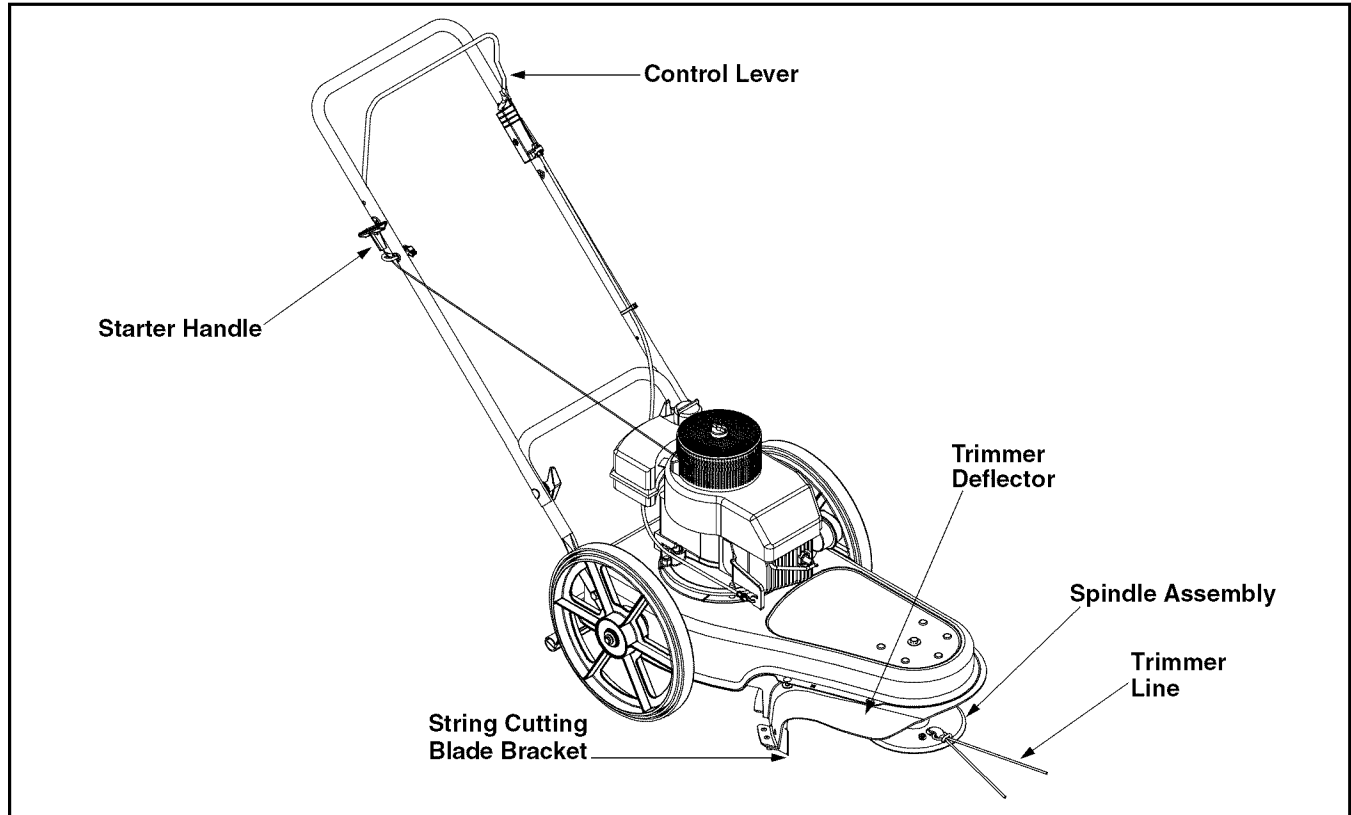

Figure 3
The control lever must be depressed to start the engine and rotation of trimmer spindle assembly. Releasing the control lever stops the engine and trimmer spindle assembly. See Figure 3.
The starter handle is attached to the right upper handle. Stand behind unit and pull the starter handle to start engine. See Figure 3.
The string cutting blade bracket is attached to the trimmer deflector. It is used to cut the trimmer line if it is too long. See Figure 3.
The trimmer deflector is connected to the trimmer base and it is used to prevent yard debris from being thrown. See Figure 3.
The spindle assembly rotates the trimmer line. See Figure 3.
The trimmer line is attached to the spindle assembly and it is used to trim grass or weeds. See Figure 3.
- The string trimmer mower is designed with a permanent off-set on the left side, in which the trimmer line is off-set from the trimmer base. This allows the operator to trim along a fence, landscaping, or a house without having to make any adjustments to the spindle assembly. Refer to Figure 3.